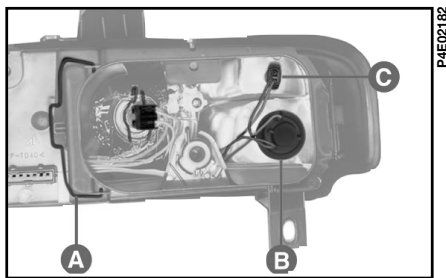

fig. 16
- 1) Release the spring **A**-fig. 16 and remove the plastic protective cover.